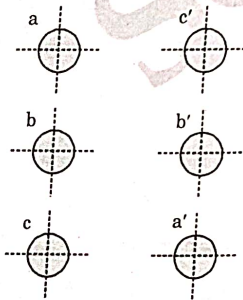

Fig. 4.8.1.
1. The conductor arrangement of the double circuit is shown in Fig. 4.8.1. Let the radius of each conductor be r .